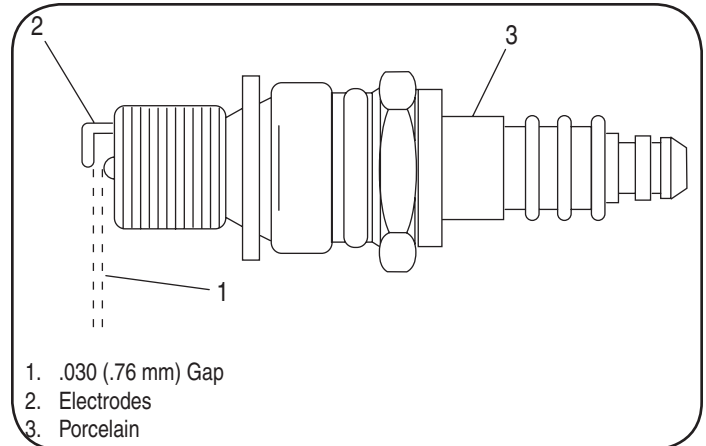

Figure 14
4. Check electrode gap with a feeler gauge and set gap to .030 (0.76mm) if necessary. See Figure 14.